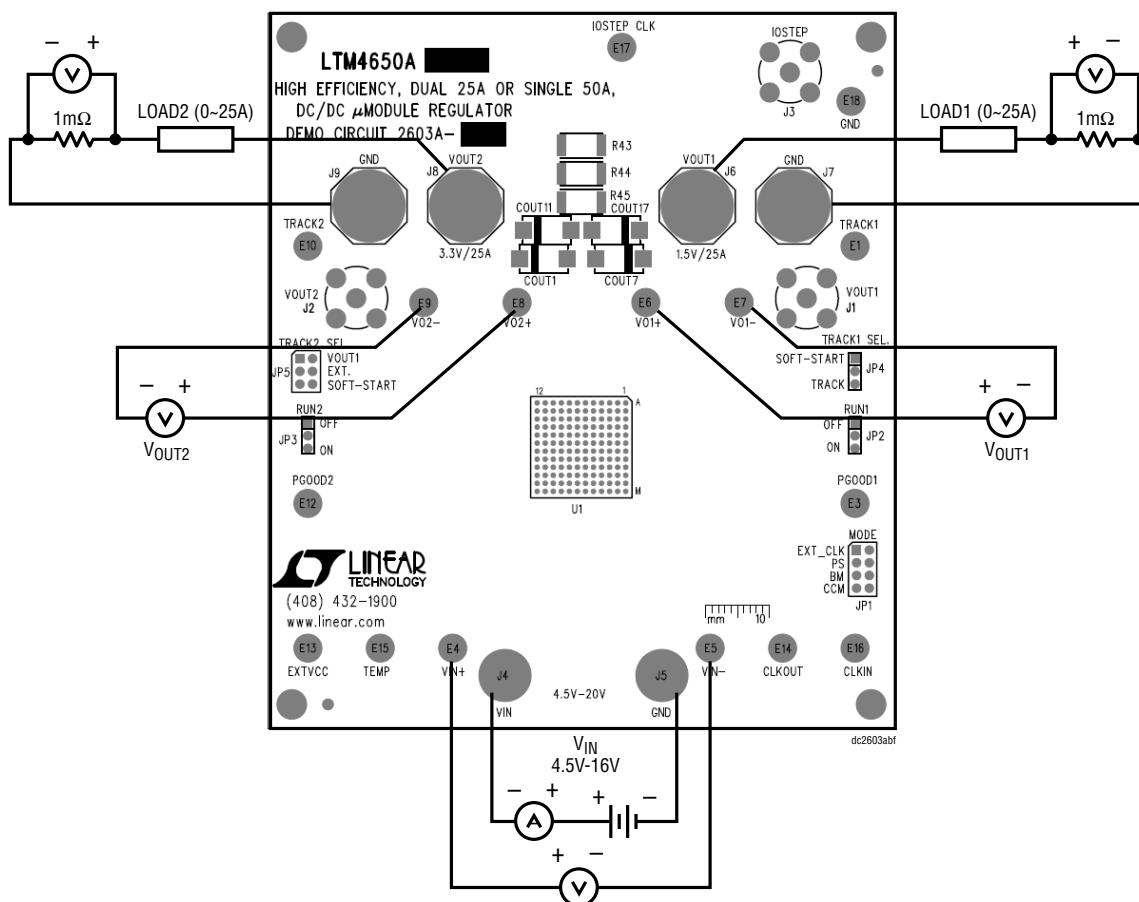

Figure 2. Test Setup of DC2603A-B
Demonstration circuit DC2603A-B is easy to set up to evaluate the performance of the LTM4650AEY-1. Please refer to Figure 2 for proper measurement setup and follow the procedure below:
2. With power off, connect the input power supply, load and meters as shown in Figure 2. Preset the load to 0A and V_{IN} supply to 12V.